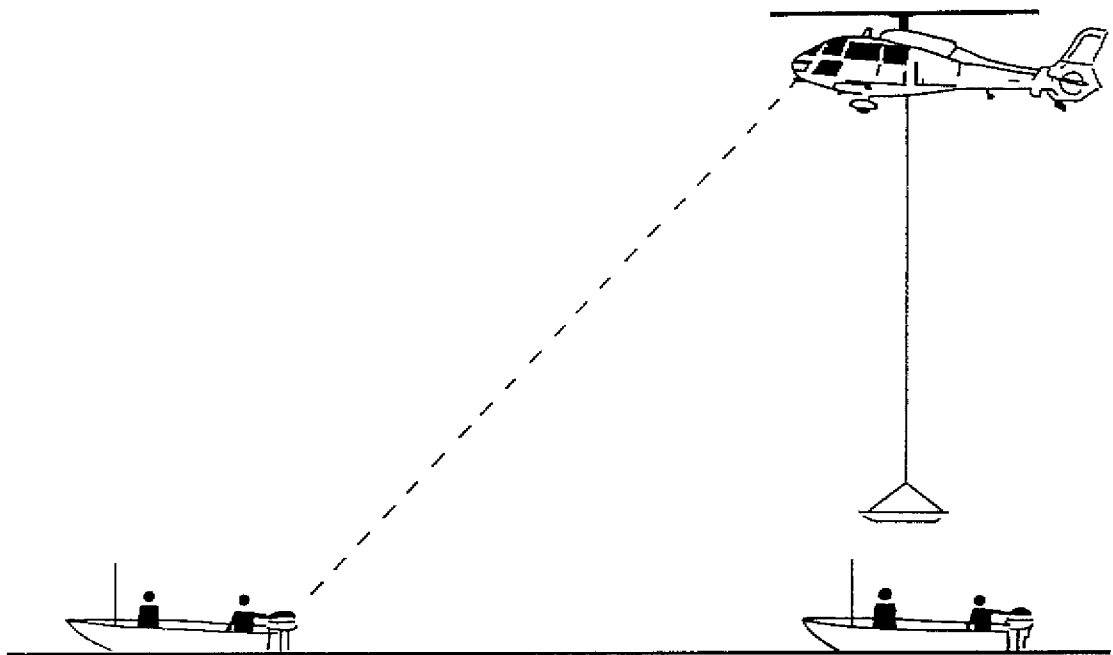

Figure 9:8
- b. The helicopter approaches astern the lead boat and positions itself so that the pilot looks straight down at the stern of the front boat at a height of about 10 to 20 metres (see Fig 9:7)
- c. The helicopter should then be directly above the rear FRB and the crewman can winch directly to or from the rear boat (see Figs 9:8).